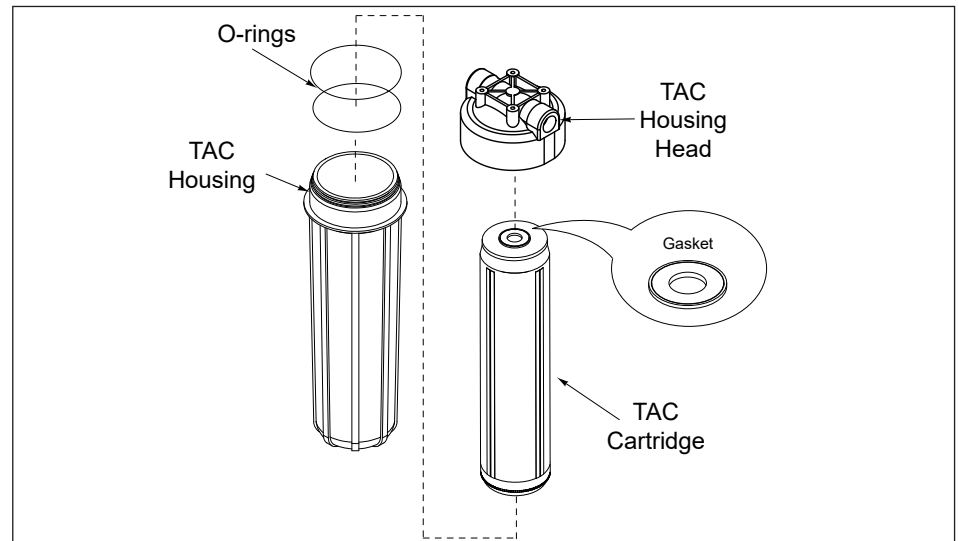

Figure 12. Replacing the TAC Cartridge
4. Empty any water into a drain and discard the old TAC Cartridge (Figure 12).
NOTE: Make sure the End Seal gasket is in place in the recessed groove on the top end of the TAC Cartridge (Figure 12).